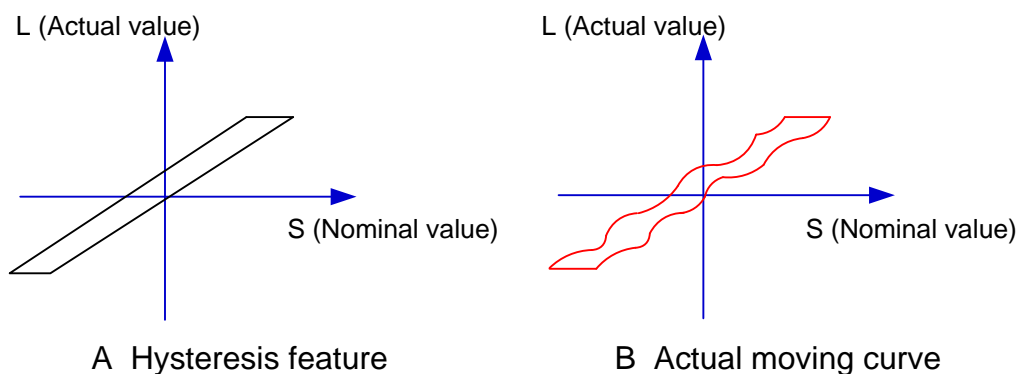

Fig. 6-13 Analysis of backlash
Hysteresis caused by forward and reverse clearance. Assume that driving shaft drives driven shaft in negative (CW) rotation, servo motor will be idling without moving worktable because of mechanical driving chain backlash, when the driving shaft suddenly begins CCW rotation (positive motion). After staying at a certain position for some time, the worktable will move backward with the driving shaft. The same situation will occur when the direction of the driving shaft changes again. We call it Hysteresis. If pitch error doesn't exist, namely under ideal condition, the moving curve of worktable is shown in Fig. 6-13 (A), in which the horizontal section is the curve without worktable movement during the idling of servo motor. The actual moving curve of worktable is shown in Fig. 6-13 (B).